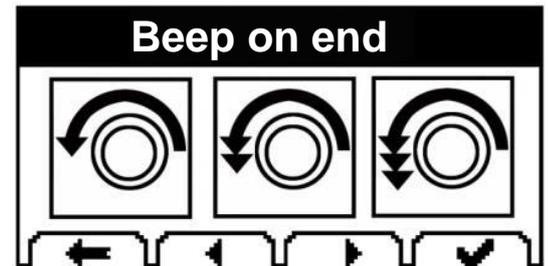

Fig. 5.12
- Select whether an acoustic warning is desired at the end of the phase (Fig. 5.12).